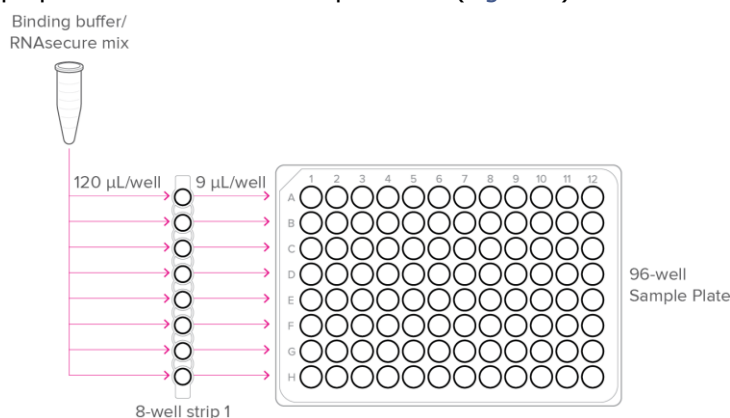

Figure 2. Binding buffer/RNAsecure mix pipetting map
- 4 Using an 8-channel pipette, distribute 9 μ L of binding buffer/RNAsecure mix to each well of a new, labeled 96-well plate and store on ice or in a cold block until ready to prepare the control and sample mixes (Figure 2).